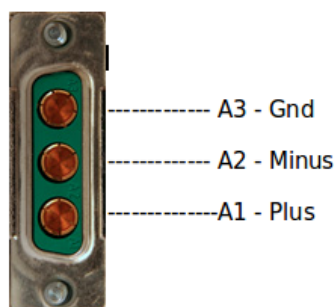

Figure 4.7: Soldering the Female 3-PIN D-sub(15) Connector to the Power Cable
The VB200-DC unit is equipped with a –48V DC / 50W power supply. The power plug is a male 3-PIN D-sub(15) Connector. A matching female plug is supplied with the VB200-DC unit. This plug should be soldered to the power cable in accordance with the drawing in figure 4.7.